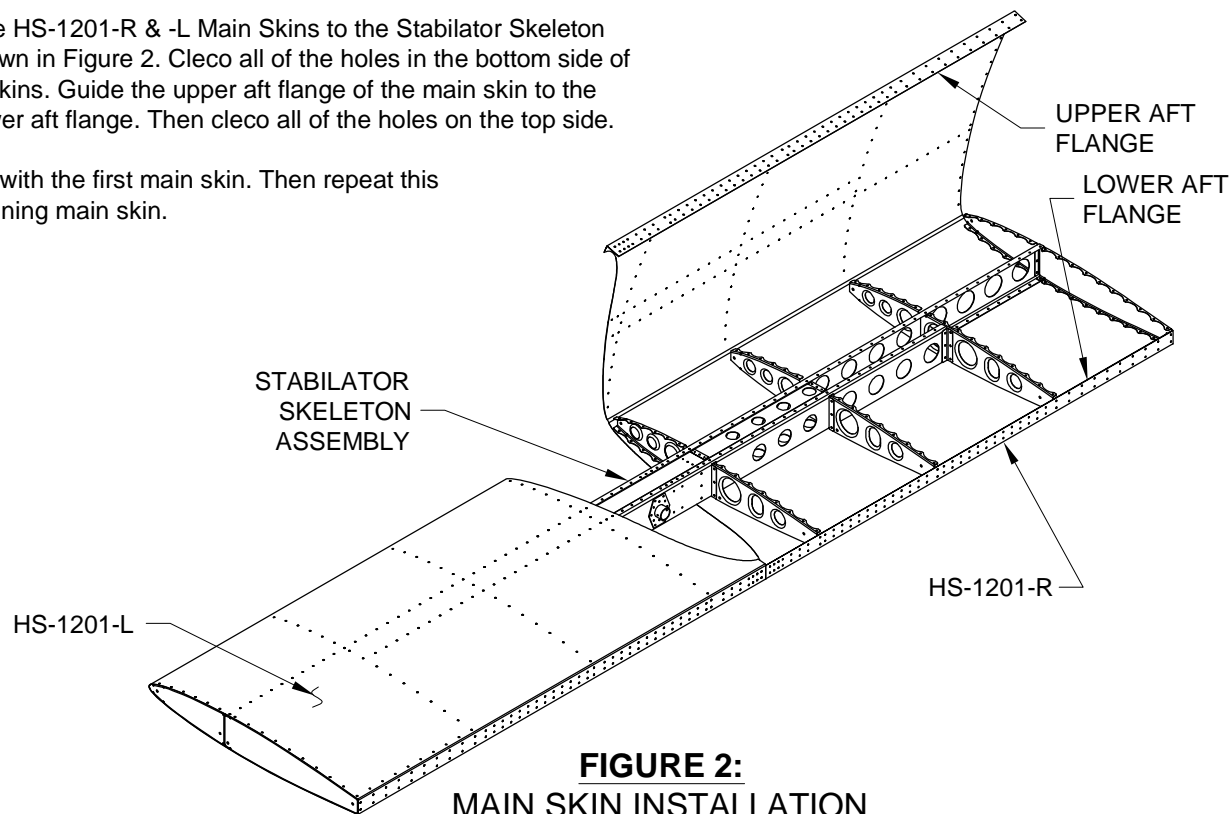

FIGURE 2:
Step 4: Cleco the HS-1201-R & -L Main Skins to the Stabilator Skeleton Assembly as shown in Figure 2. Cleco all of the holes in the bottom side of one of the main skins. Guide the upper aft flange of the main skin to the outside of the lower aft flange. Then cleco all of the holes on the top side.